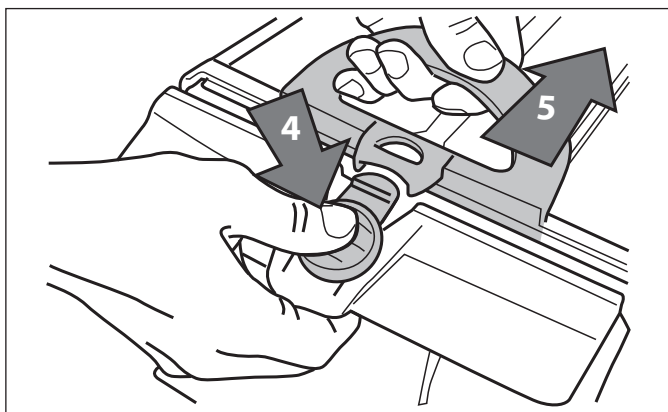

Figure 21. Open Filter Canister Assembly
- Push the quick release button on the canister assembly (4) and pull open Figure 21.